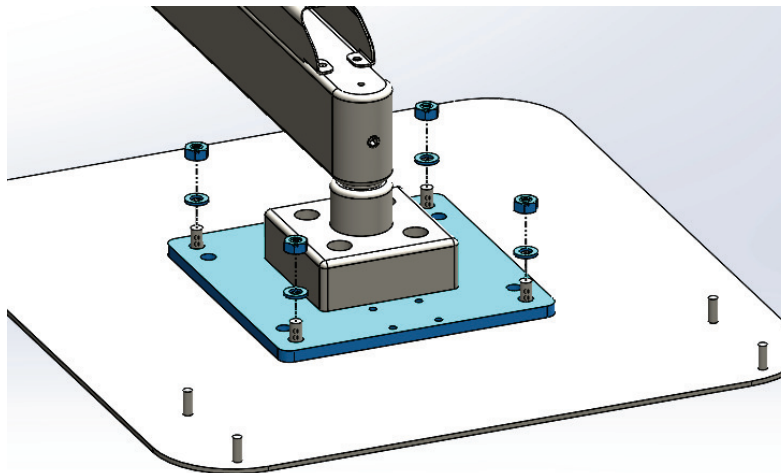

Figure 4. 106-408 work surface mounting plate and hardware, step 2
NOTE: Orientate 106-408 hole pattern as shown (figure 4)
2. Orientate 106-408 hole pattern as shown (Fig. 4) Apply the 003-034 washers and tighten the 002-037 nuts over the studs coming through the holes of the 106-408 work surface mounting plate.